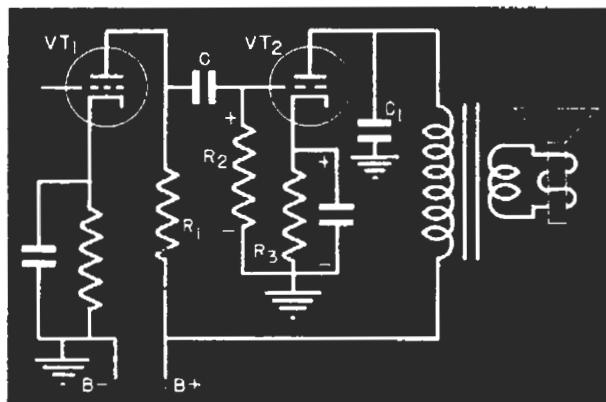

FIG. 9. Most distortion complaints are due to troubles in audio stages like this one.
tive. The self-biasing feature of tube  $VT_2$  in Fig. 9 will compensate for small voltages across  $R_2$ , but usually the coupling condenser leakage progresses to a point where the self bias can't keep up. The tube then operates on the upper half of its  $E_g$ - $I_p$  curve, and a very annoying type of distortion is produced.\*
► In a resistance-coupled amplifier, the most common cause of amplitude distortion is incorrect grid bias caused by a leaky coupling condenser. Fig. 9 shows a typical circuit. If condenser  $C$  leaks,  $R_1$ ,  $C$  and  $R_2$  form a voltage divider across the B supply. The voltage developed across  $R_2$  has the polarity shown, making the grid of the tube less negative than normal, or even posi-